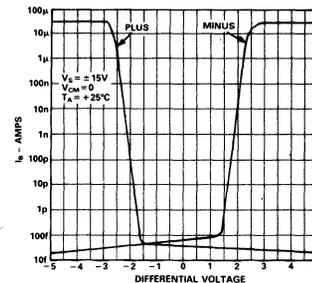

Figure 10. Input Bias Current vs. Differential Input Voltage
- Figure 10 shows the AD515A's input current versus differential input voltage. Input current at either terminal stays below a few hundred fA until one input terminal is forced higher than 1 to 1.5V above the other terminal. Input current limits at 30μA under these conditions.